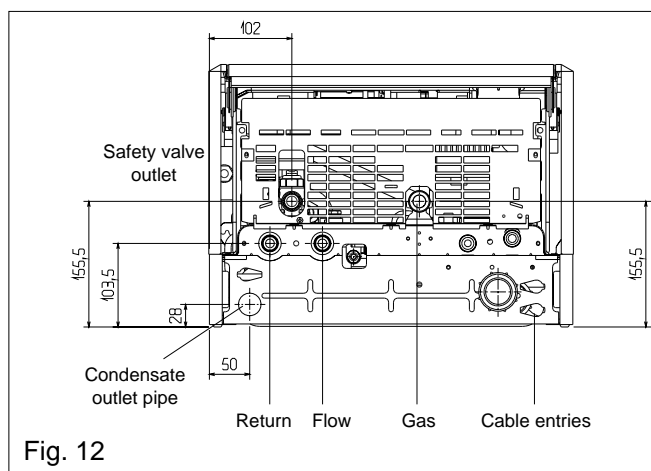

Fig. 12
4.6.1 GAS (see fig. 12)
4.6.2 FLOW & RETURN (see fig. 12)
4.6.3 SAFETY VALVE (see fig. 12)
4.7 CONDENSATE OUTLET (see fig. 12)